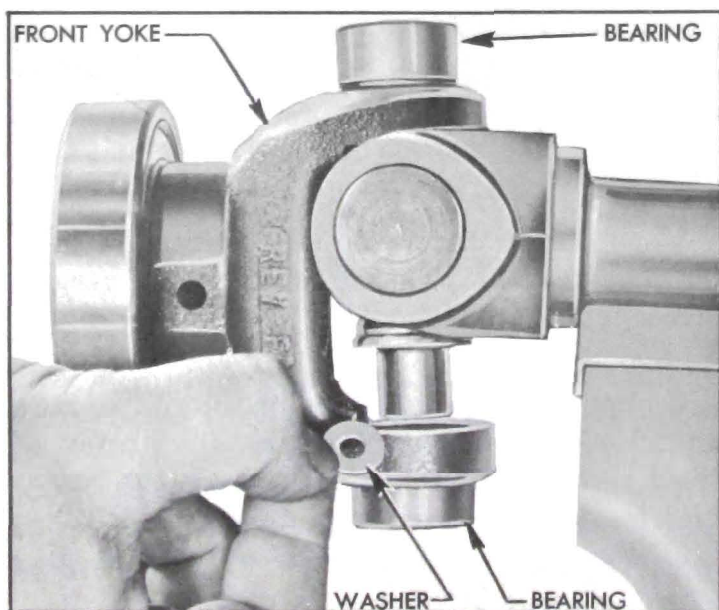

Figure 6-12—Placing Washers Inside Front Yoke Bearing
5. Now place flat washers ( $\frac{9}{16}$ " O.D.) down in lower end of bearing. See figure 6-12. Total thickness of washers should be  $\frac{1}{8}$ " to  $\frac{3}{16}$ ".